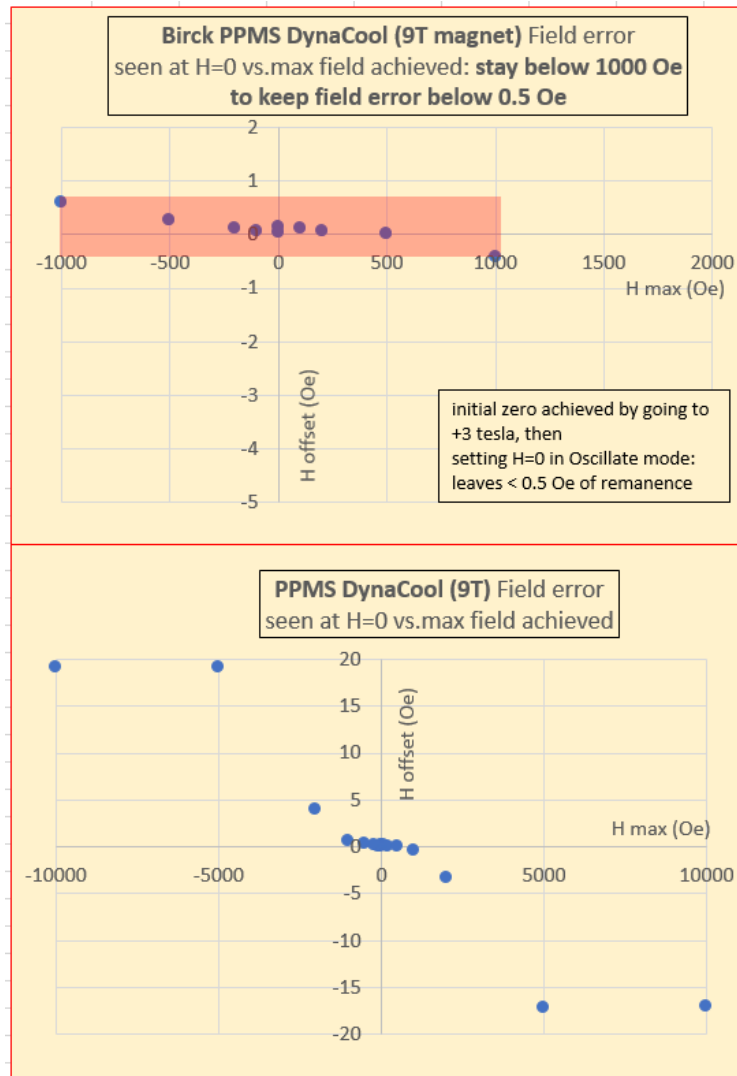

Figure 2: error in the reported field for work at low fields (TOP) and high fields (BOTTOM).
- Consult the upper plot in Figure 2 and use as follows: if you came down from +1 tesla (10000 Oe) then there will be a -17 Oe offset in the reported field. That is: